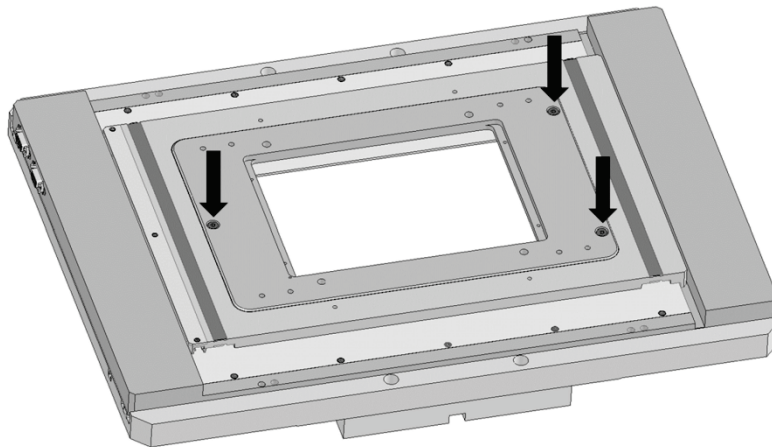

Figure 4: M-687.UN: Fixing screws of the adapter plate
1. Loosen the three M4 fixing screws (see Figure 4 above) of the adapter plate.